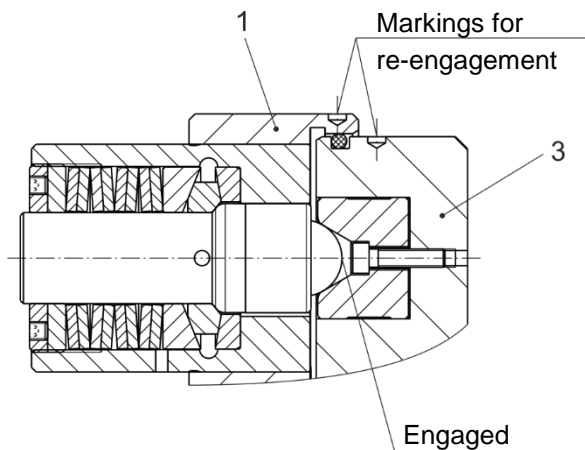

Fig. 3
Re-engagement (Figs. 3 and 4)
In order to make the clutch ready for operation again after overload occurrence, the bolts (7) in the overload elements (2) must be re-engaged. The marking bores on the outer diameters of the flange hub (1) and the pressure flange (3) must align with each other (Fig. 3). Re-engagement takes place by placing axial pressure on the bolt (7) end of each overload element (2). Depending on the equipment available, the accessibility of the installation point etc., re-engagement can be carried out in the following ways: